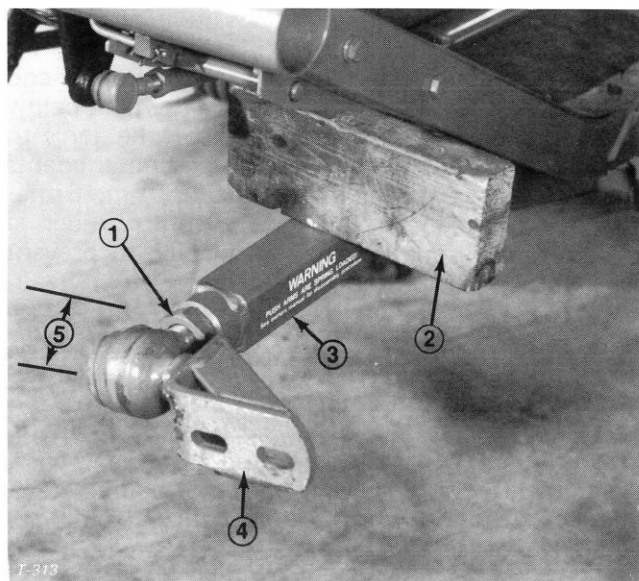

Figure 14
4. Have a helper push down on the left push arm; then insert a 2 x 4 in. (51 x 102 mm) block of wood between the frame and top of the push arm (Fig. 14). Screw ball joint into left hand push arm until center of ball joint is 2-3/8 inches (60 mm) away from front of push arm (Fig. 14). Do not tighten jam nut.